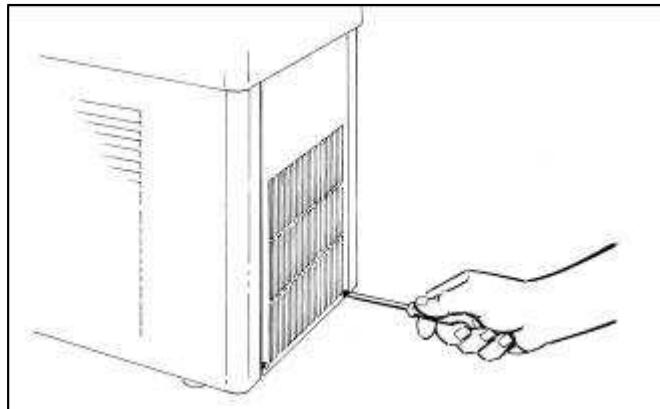

Рис. 41
- GT1 machine: remove the rear panel by unscrewing the two bolts fastening it (Рис.41);